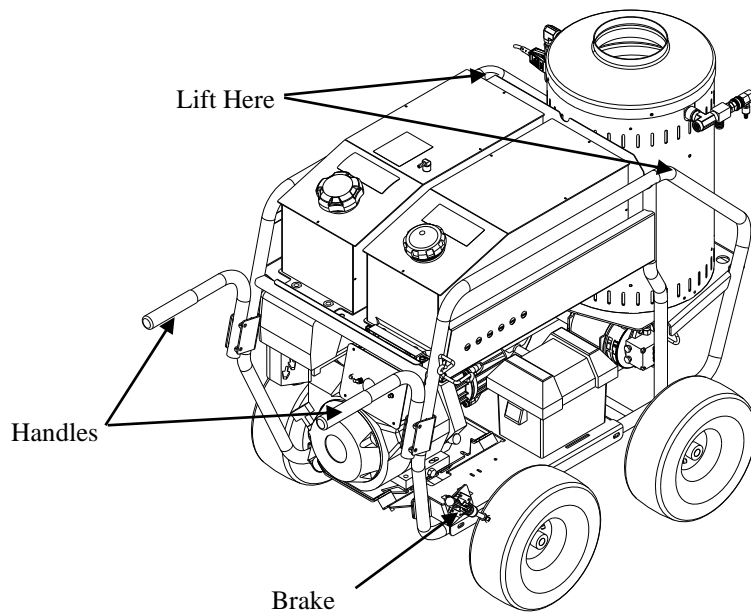

Figure 7
3. Engage brake to prevent inadvertent movement. (See Figure 7)
To reduce risk of injury, use a hoist or shallow ramp to raise or lower the pressure washer. When using a hoist, lift from the lifting points. (See Figure 7).